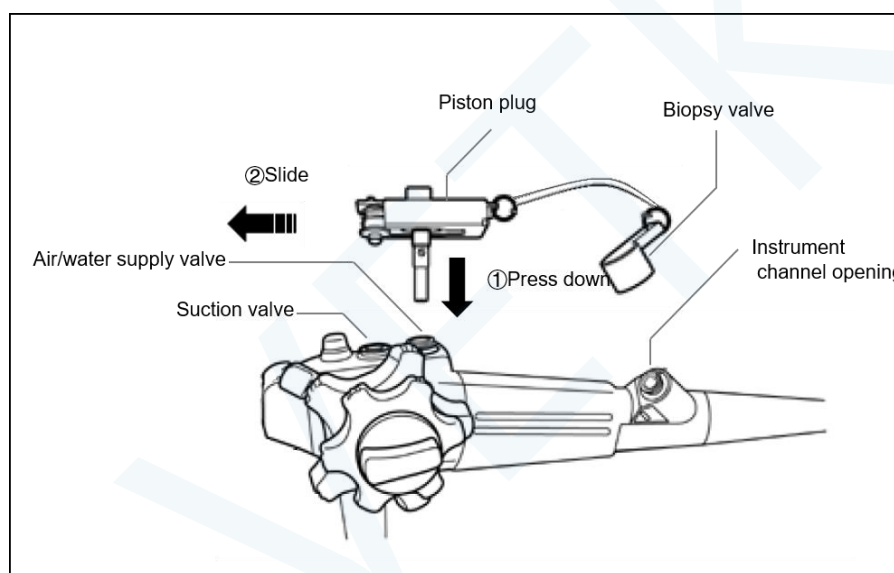

Figure 7.20
1. Attach the biopsy valve of the channel plug to the instrument channel opening (Figure 7.20).
2. Install the piston plug of the channel plug on the air/water and suction connectors (Figure 7.20).
3. Press the plug on the control section of the endoscope and slide the plug to the end (Figure 7.20).
1. Install channel plug and perfusion tube to endoscope. Place the suction port of the perfusion tube into the clean water. Attach the biopsy valve of the channel plug to the instrument channel opening (Figure 7.20).
channels respectively through the perfusion tube (Figure 7.20).
2. Install channel plug and perfusion tube to endoscope. Attach the biopsy valve of the channel plug to the instrument channel opening (Figure 7.20).
3. Use a 50cm³ (50mL) syringe to inject 150cm³ (150mL) disinfectant into the air/water and suction channels respectively through the perfusion tube (Figure 7.20). Make sure there are no bubbles emerging from the distal tip of the endoscope.